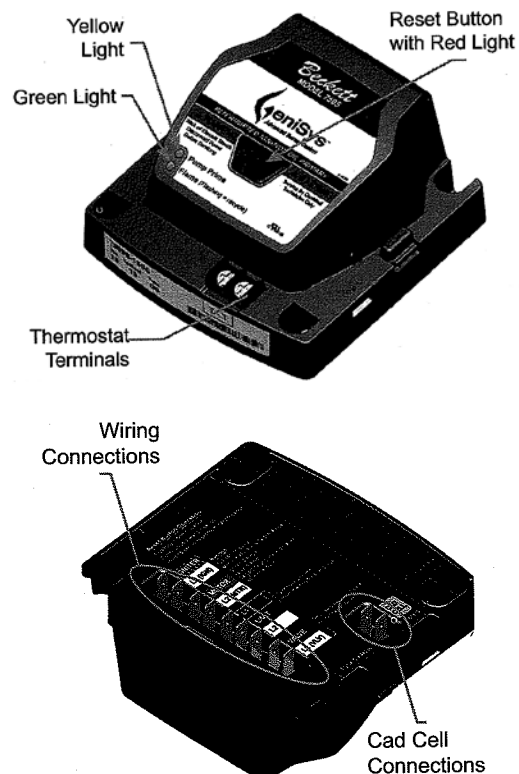

Figure 28: GeniSys 7505 Oil Primary Terminals, LED's and Reset Button
- a. **GeniSys 7505 Control Features**, see Figure 28
- At burner start up, click the reset button while the igniter is still on. This will transition the control to a dedicated Pump Prime mode, during which the motor, igniter, and valve are powered for four (4) minutes. The yellow light will be on.
- At the end of four (4) minutes, the yellow light will turn off and the control will automatically return to standby mode.